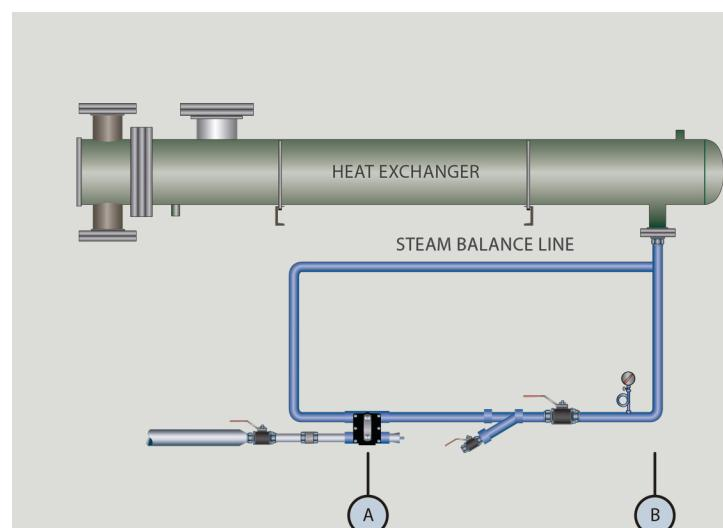

Figure 2. Balancing Line for a Steam Trap with a Connection Port and Balanced to the Condensate Outlet
2. *If this is not possible due to installation constraints, then add a steam balancing line as shown in the piping configuration below. Figure 2 indicates a simple addition of a balance line that can eliminate any system problems with steam locking.*